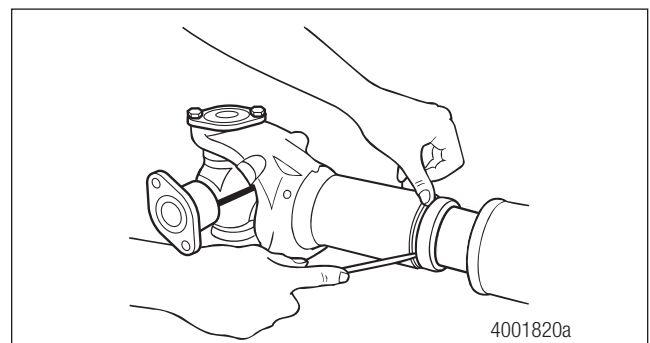

Figure 8.9
4. Install the seal onto the groove in the slip yoke. Figure 8.9.